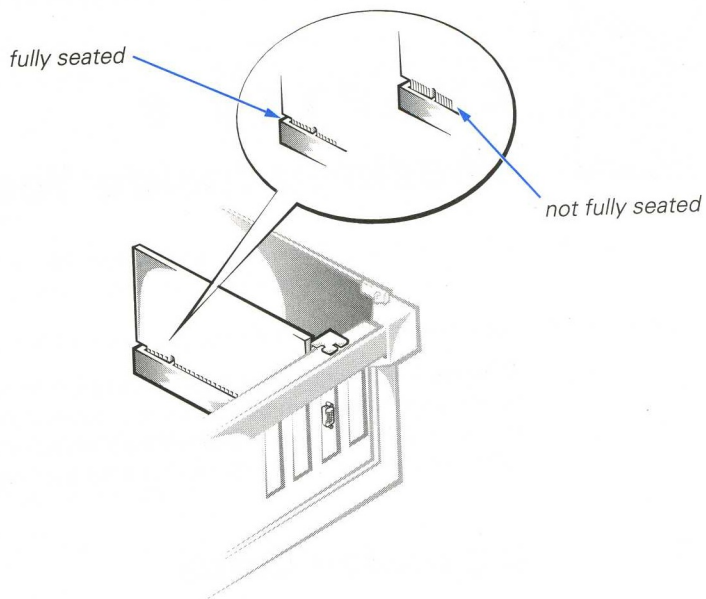
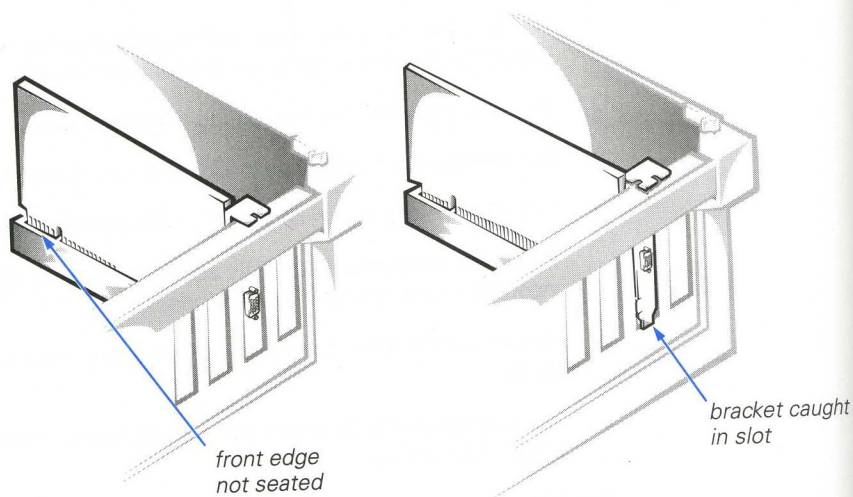

**Figure 6-1. Expansion-Card Installation**
**Figure 6-2. Incorrect Expansion-Card Installations**
Figure 6-1 illustrates a correctly seated expansion card, and Figure 6-2 illustrates incorrect expansion-card installations.
4. Remove and reinstall the modem, fully seating the card in its connector (see Figure 6-1).